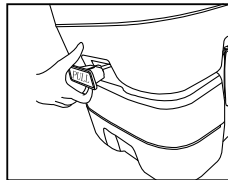

Figure 3
- ❖ Double sealed drain valve protects against leakage and odors (figure 3)